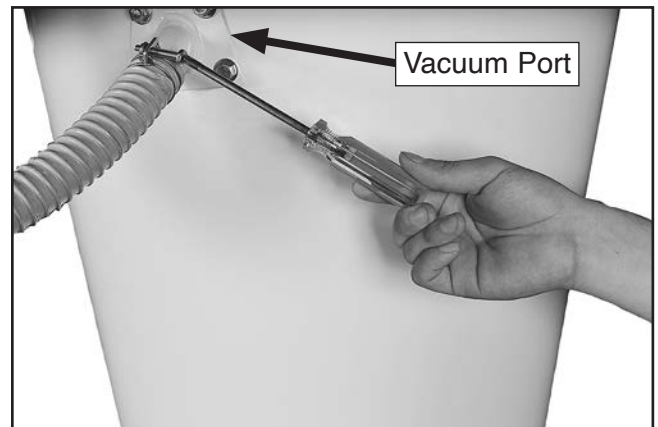

Figure 23. Attaching cyclone vacuum tube and hose attachment.
19. Attach vacuum port to cyclone funnel with (4) $\frac{5}{16}$ "-18 x $\frac{3}{4}$ " hex bolts and (4) $\frac{5}{16}$ " flat washers (see **Figure 23**).